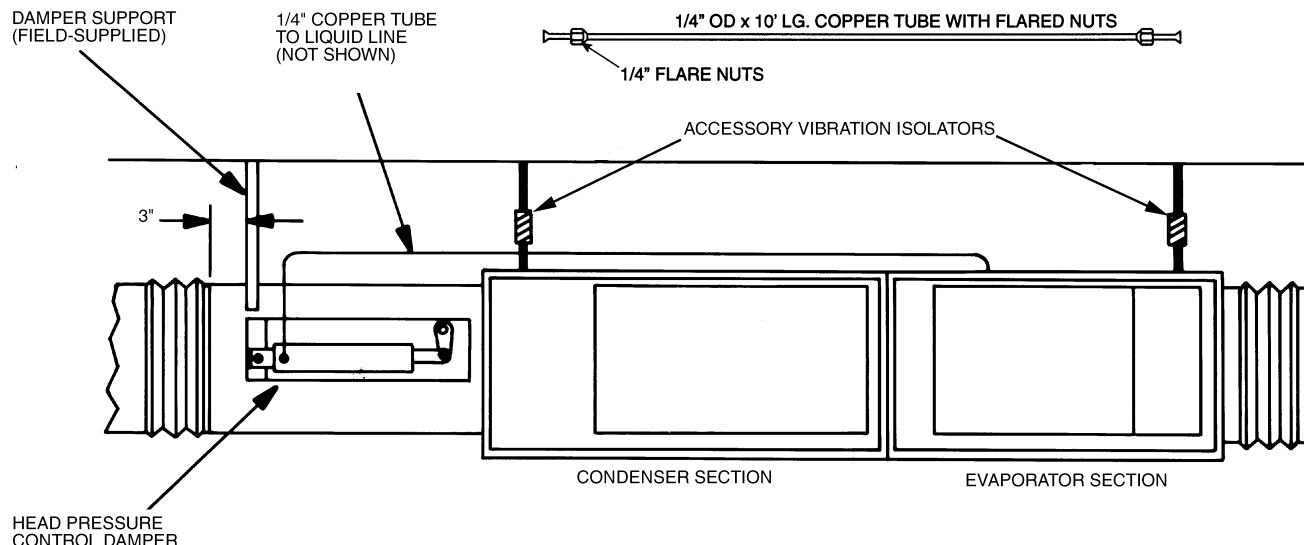

Fig. 2 — Head Pressure Control Damper Installation — Factory Configuration
2. Install 1/4-in. copper tube with flare nuts. Be sure to connect copper tube to damper side first. See Fig. 2.
8. Attach damper support to control damper. See Fig. 2 and 3.